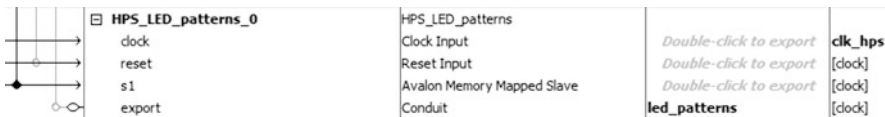

Fig. 6.5: Exporting the led_patterns signal in Platform Designer
- iv: On the line that says **export** in the *Name* column and also **Conduit** in the *Description* column for the **HPS_LED_patterns** component, double click where it says **Double click to export**. Rename this export signal name from *hps_led_patterns_0_export* to **led_patterns** (Fig. 6.5).